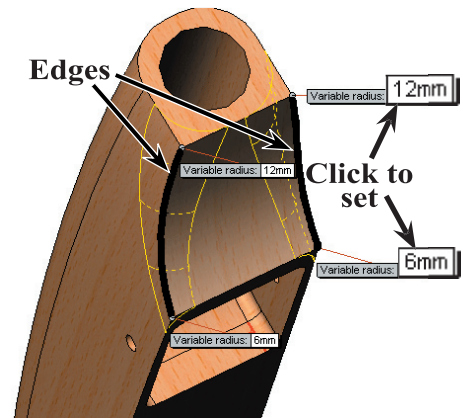

Fig. 48
Step 1. Use the left arrow on the keyboard to rotate view as shown in **Fig. 48**.
Step 3. Click the **both edges under cartridge cutout**, **Fig. 48**.